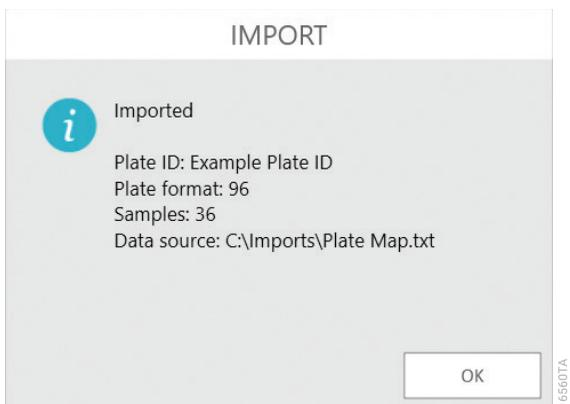

Figure 39. ‘Import’ screen. The ‘Import’ screen displays a summary of information from the import of a plate map file.
7. Once all data fields are identified, tap the **Accept** button to perform the import of data from the file. An 'Import' screen is shown summarizing the results of the plate import including the Plate ID, plate format, number of samples present in the file, and the data source for the import file (Figure 39). Tap **OK** to dismiss the 'Import' screen.